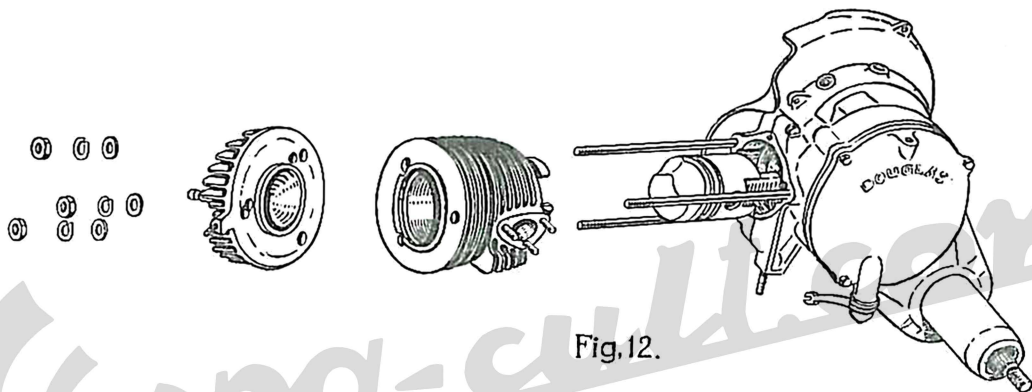

Fig.12.
6. Clean the silencer and decarbonise the engine as explained in Fig. 12 and following notes.
Remove the silencer, the cooling hood and the cylinder head (see Fig. 12). Bring the piston to the top dead centre to decarbonise its crown, and clean all carbon deposits from the mouth of the cylinder; then bring the piston to the bottom dead centre and clean the cylinder ports. Decarbonise the inner side of the cylinder head, ensure that the cylinder barrel is free of all carbon.